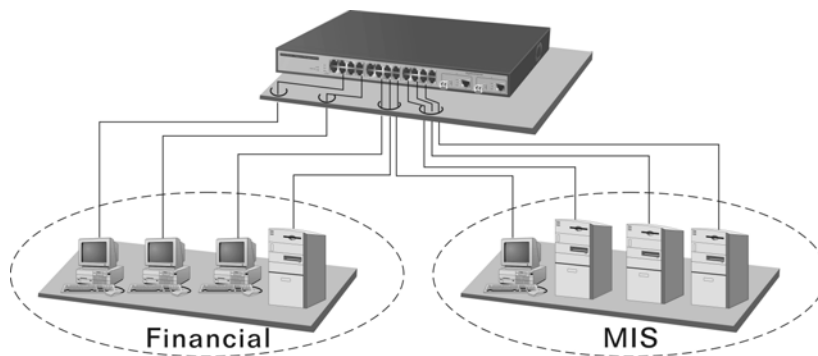

Fig. 2-12 Peer-to-peer Network Connection
- Peer-to-peer application is used in two remote offices (See Fig. 2-12)